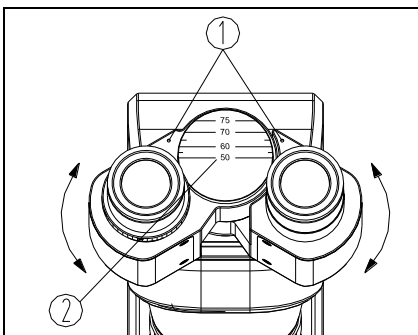

Fig.13
When using two eyes to observe, hold the bases of the prism and rotate them around the axis to adjust the interpupillary distance, until there is only one field of view. The dot “.” ① on the eyepiece base points to the scale ② of the interpupillary distance indicator. The scale value is the interpupillary distance (See Fig. 13).